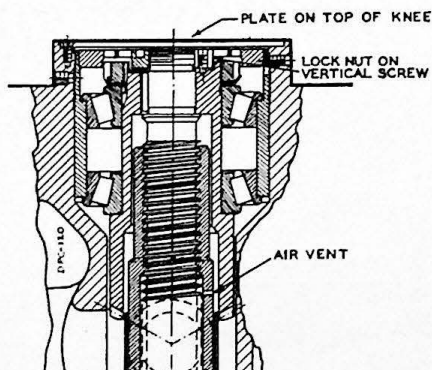

FIGURE 17
5. Remove round plate on top of knee. This will expose lock nut on top of Vertical screw. See Figure 17.
6. Remove set screw in lock nut on vertical screw. See Figure 17.